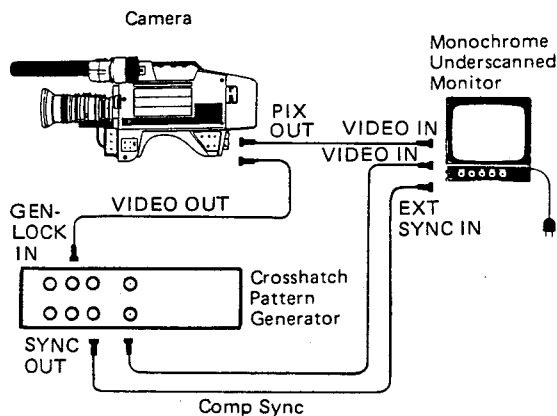

Fig. 5-4-14
- o Connect the VIDEO OUTPUT connector on the left side of camera to the VIDEO INPUT of monochrome underscanned video monitor loop through the GEN-LOCK INPUT of crosshatch generator and connect the VIDEO OUTPUT of crosshatch generator to the VIDEO INPUT of monochrome underscanned video monitor. (Fig. 5-4-14)